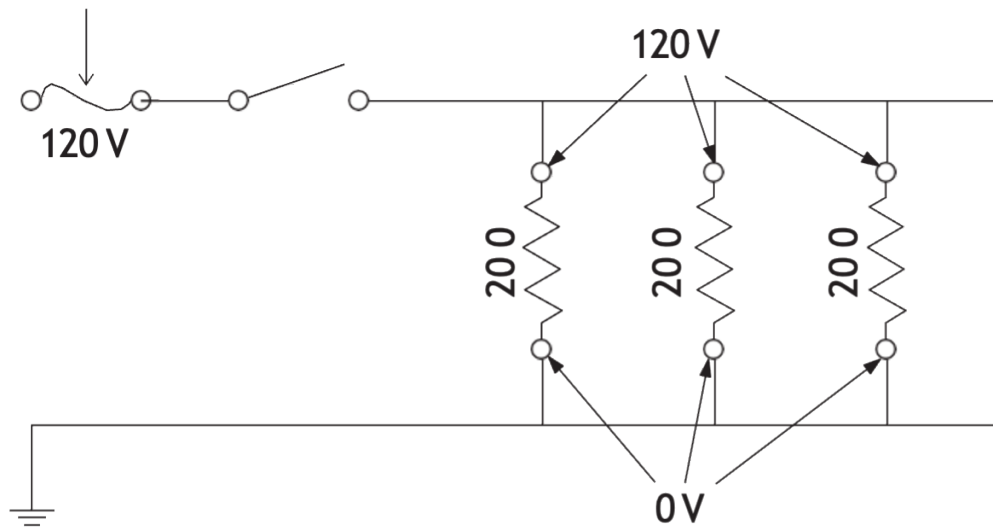

Figure 23 Parallel circuit (BC Industry Training Authority, 2019). CC BY-NC-SA 4.0
A **parallel circuit** is one in which electricity has two or more paths to follow. If three light bulbs are wired in parallel, electricity can pass through any one of the bulbs without passing through the other two (Figure 23). If one of the bulbs is removed, electricity still reaches the other two and they remain lighted.
In Figure 23, the voltage potential between the 120 V, also known as the hot (H) terminal, and the 0 V grounded or neutral terminal (N) is 120 V. Since loads A, B and C are wired across H and N, the voltage across each load is also 120 V. In a parallel circuit, the voltage is equal in each path. If loads A, B and C are equal in resistance and also have the same voltage across each, the current (amperage) passing through each of the loads is equal. The total amperage of a parallel circuit can be determined by adding the amperage of all the loads in that circuit.